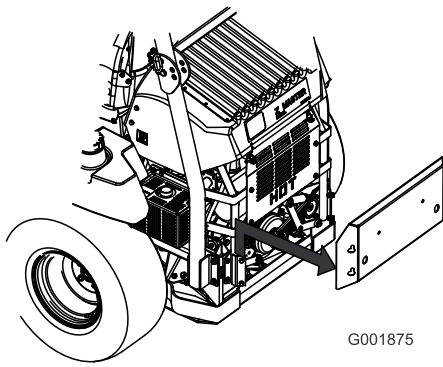

Figure 66
3. Remove the rear engine panel (Figure 66).